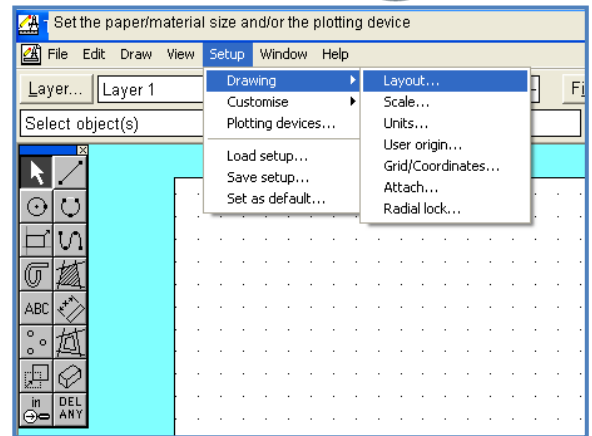

Figure 4
- Choose Setup – Drawing – Layout (Figure 4)